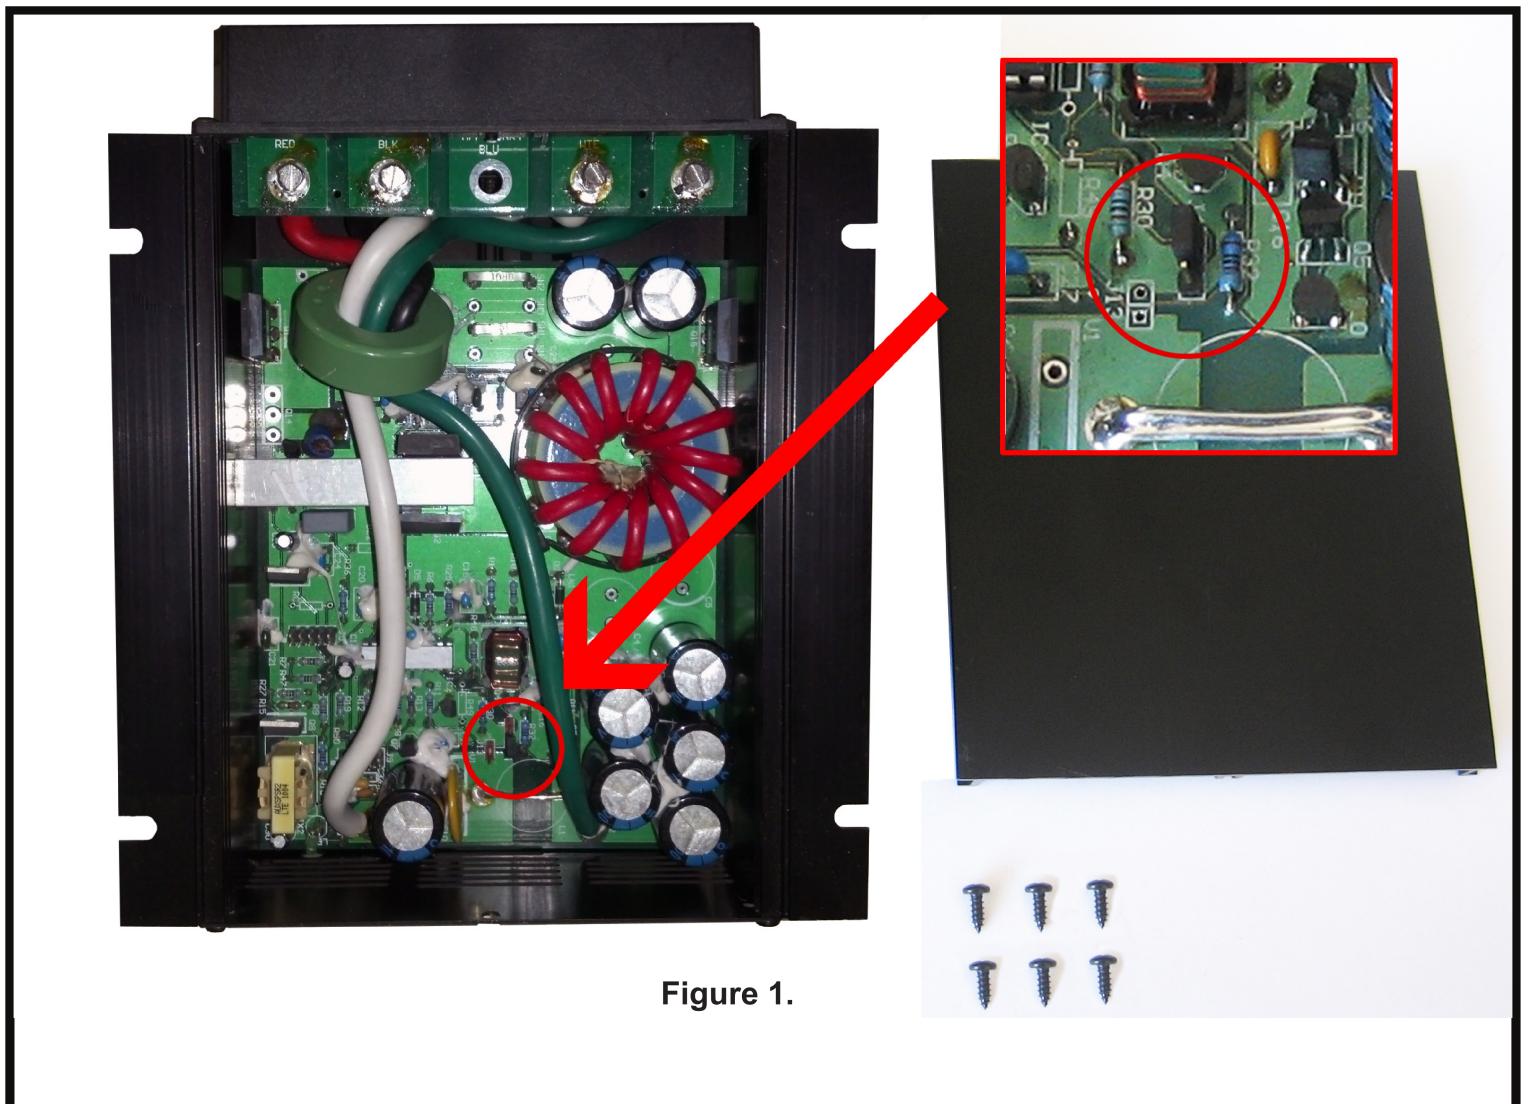

Figure 1.
2. Remove the 5 front panel screws and then move the front panel ajar. Then remove 1 middle rear screw on the back panel (bottom middle below fan) then slide out bottom cover – see **Figure 1**
3. Locate connector J4 – see **zoom window in Figure 1**.